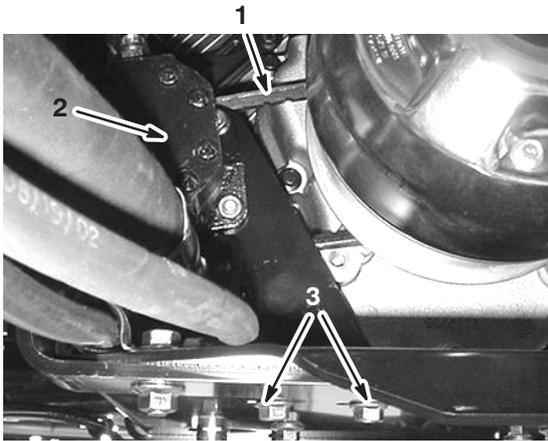

Figure 53
2. Loosen the steering pump mounting bolts (Fig. 53).